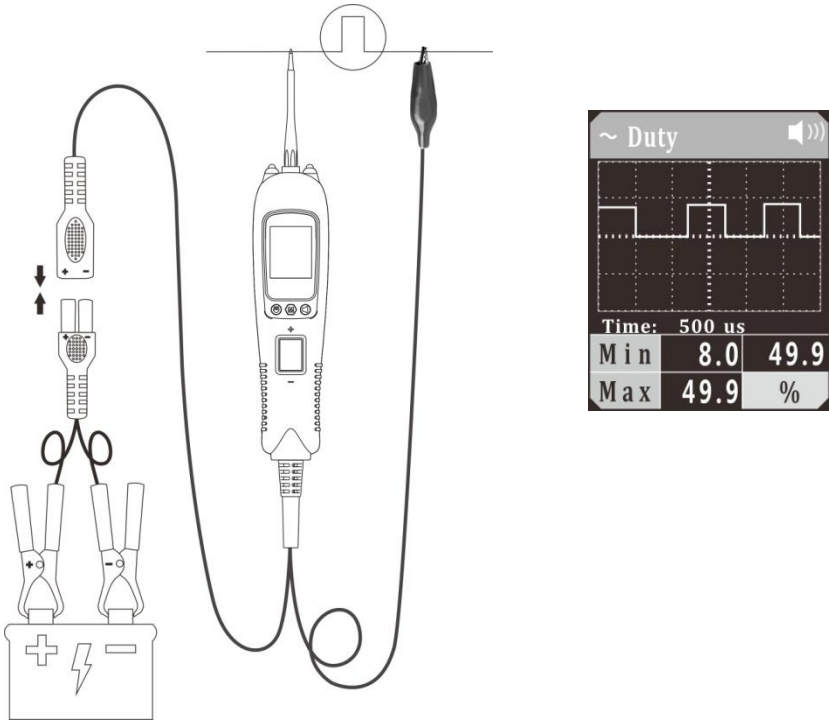

Figure 6
- 3) The auxiliary ground wire is connected to the common end of the circuit under test, and the probe contacts the test circuit. The LCD display will show the minimum duty cycle, maximum duty cycle and waveform duty cycle (Figure 6), and display the signal waveform in real time. You can adjust the sampling frequency by pressing the Up/Down Button. In Figure 6, "time: 500us" is the time interval indicated by each large grid. This time reading will change with the sampling frequency.